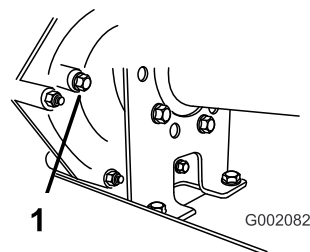

Figure 55
2. Remove the bolt from the level indicating hole (Figure 55).